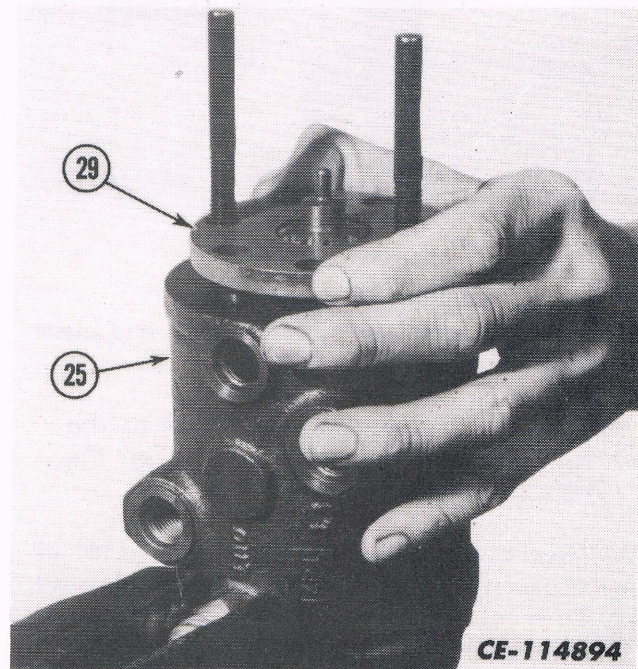

Fig. 21
18. Assemble the spacer plate (29) over the assembly posts and onto the housing (25) with the plain side up. See Fig. 21.
19. Install the rotor set (31) over the assembly posts and onto the spacer plate (29).